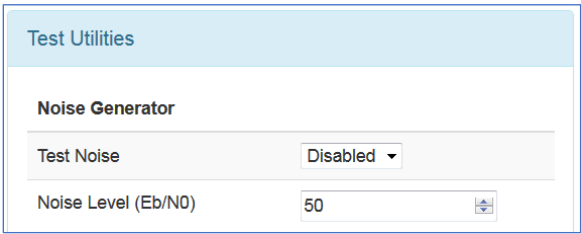

Figure 260: Test Utilities, Noise Generator-Noise Level Selection
- Noise Level -Sets the noise level to use in the test in dB E_b/N_0 , as shown in Figure 260